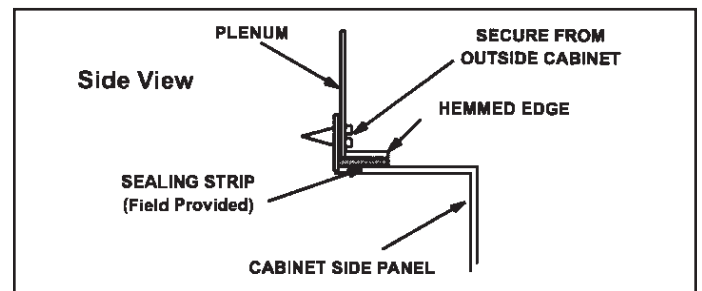

Figure 10.
- Bottom edge of plenum should be flanged with a hemmed edge. See Figure 10.